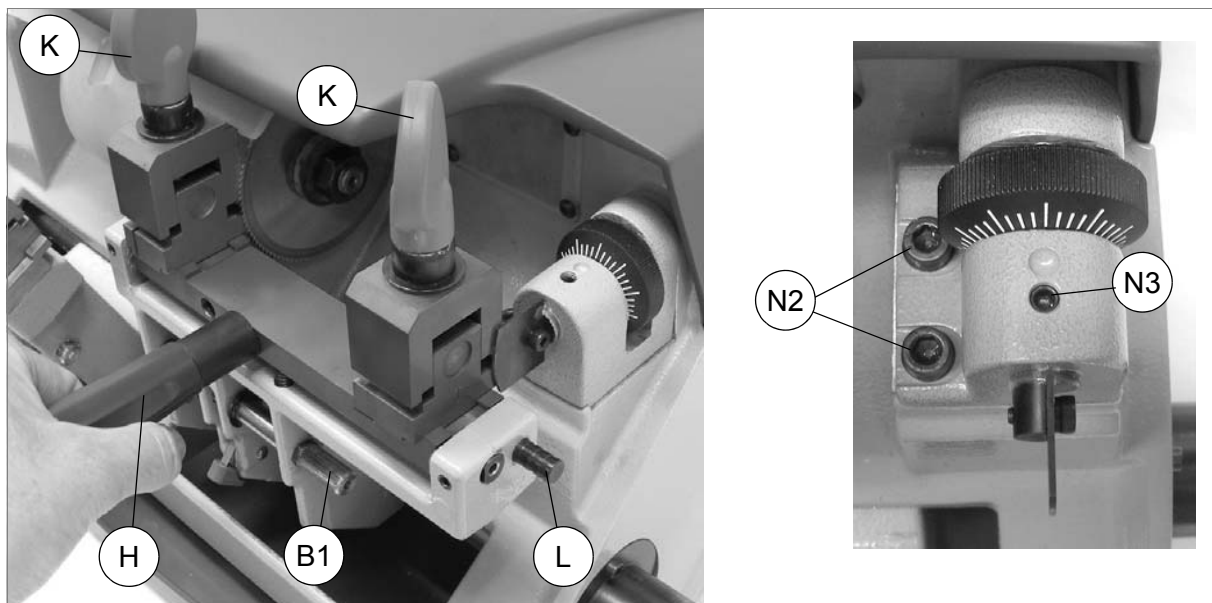

Fig. 19
- 3) Lock the tilting movement of the clamps by inserting the pin (L) into its seat.
- 4) Close the 2 clamps with their knobs (K).
- 6) Use the lever (H) to raise the carriage and take the right-hand side of the clamp up against the left-hand side of the tracer point and cutter (fig. 19).
- 7) The ideal condition is for both tools (tracer point and cutter) to be in contact with the relative side of the clamp. If this is not so, loosen the 2 tracer point holder screws (N2) (fig. 19) and move the tracer point holder manually (right or left) until the ideal condition is found.